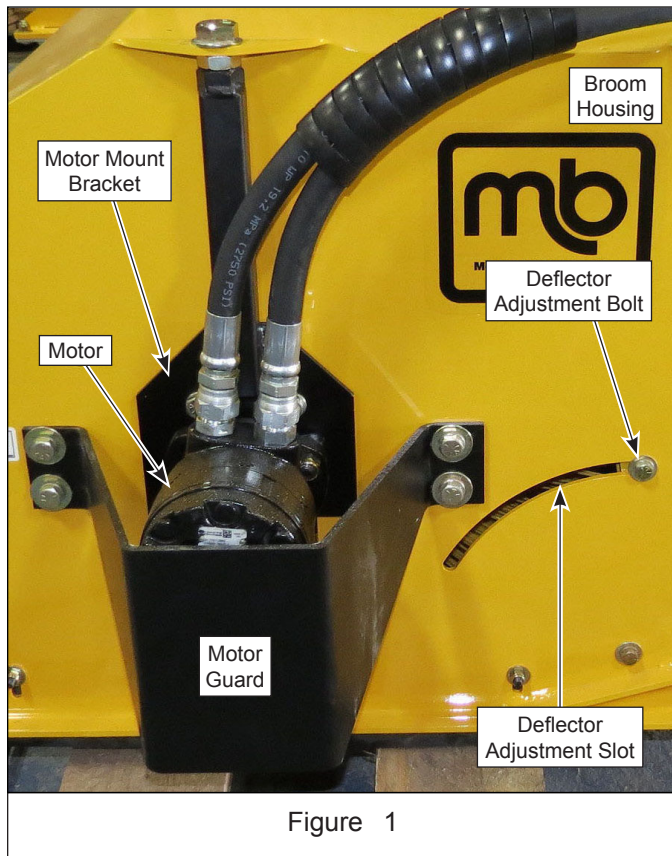

Figure 1
2. Remove (4) 1/2-13 x 1-1/4" hex head capscrews, flat washers and motor guard from broom housing. Retain guard and mounting hardware. See Figure 1.